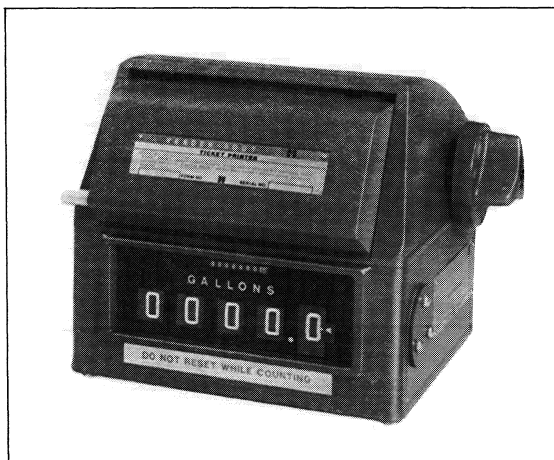

Figure 1. Series 7888 Meter Printer Mounted on Series 7887 Meter Register
A. GENERAL. These instructions are for servicing of the Series 7888 Meter Printer, Figure 1, designed and manufactured by Veeder-Root Company, 6th Avenue at Burns Crossing, Altoona, PA 16602, P.O. Box 1673, Altoona, PA 16603. Phone: (814) 695-4476.